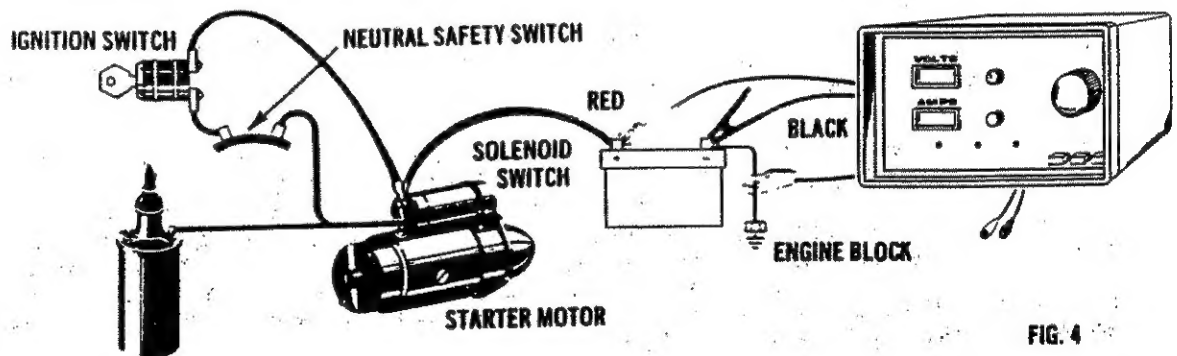

FIG. 4
5. Connect "Battery Cables" to battery as shown in Fig. 4.